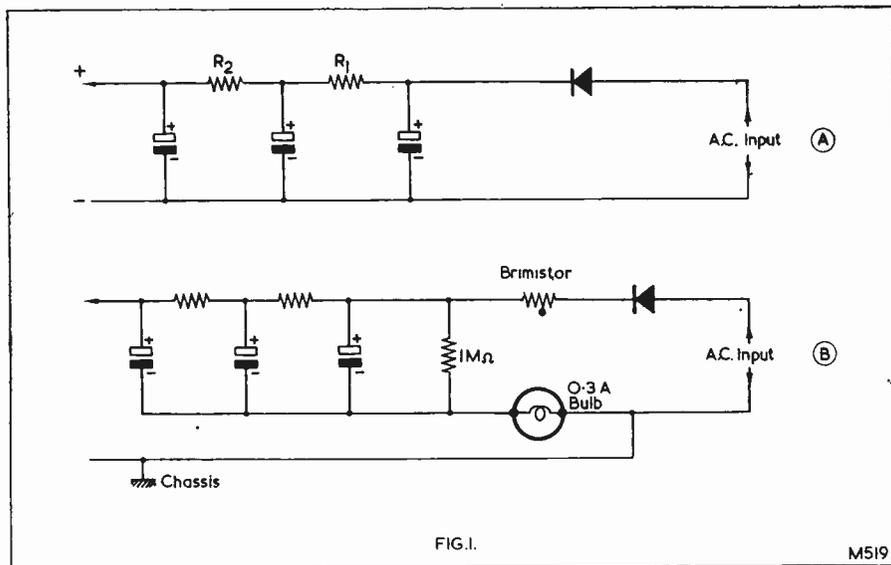

FIG. 1.
(1) Fig. 1 (b). All electrolytic condensers connected to h.t. or to reduced h.t. must be joined to the line A-B, otherwise the protection will be only partial.